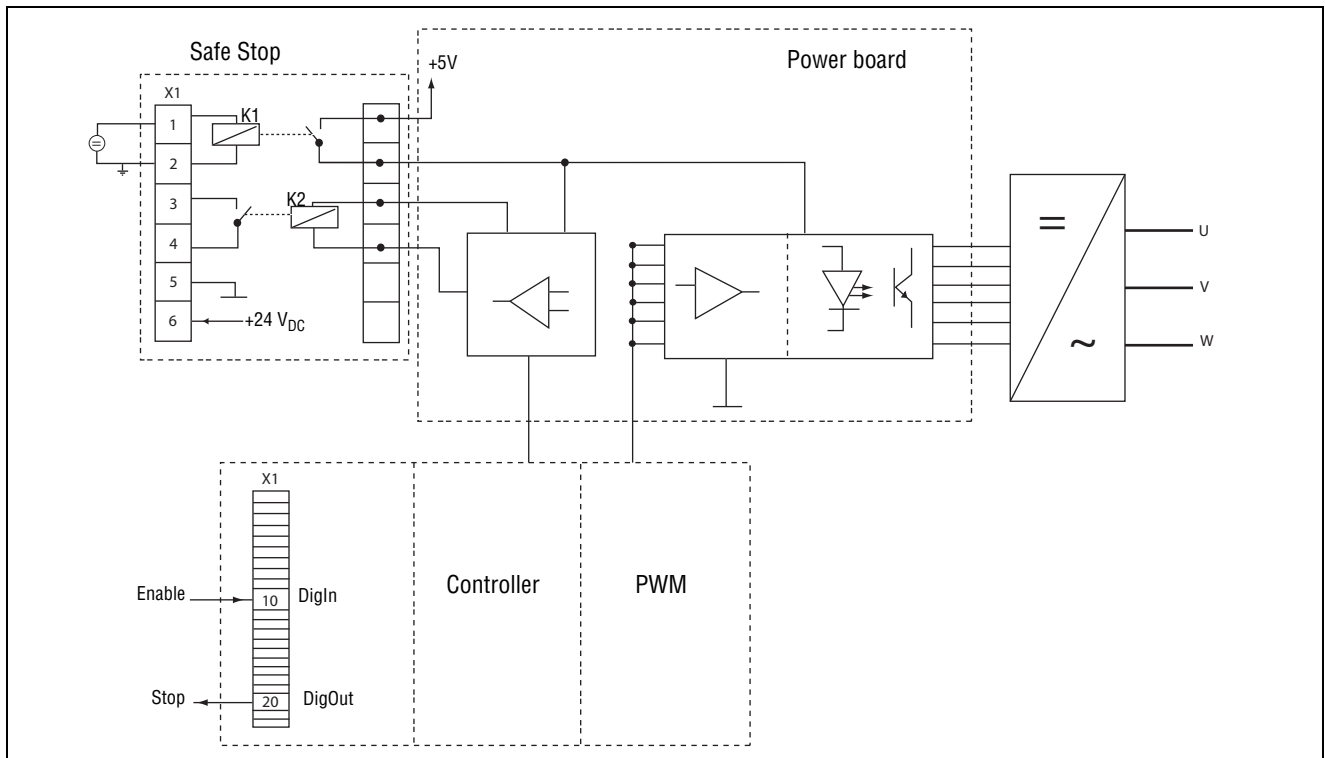

Fig. 136
- "Inhibit" input, terminals 1 (DC+) and 2 (DC-) on the Safe Stop option board should be made active by connecting $24 V_{DC}$ to secure the supply voltage for the driver circuits of the power conductors via safety relay K1. See also Fig. 136.
- High signal on the digital input, e.g. terminal 10 in Fig. 136, which is set to "Enable". For setting the digital input please refer to section 11-5-2, page 200.
To monitor the "Enable" function, the selection "RUN" on a digital output can be used. For setting a digital output, e.g. terminal 20 in the example Fig. 136, please refer to section 11-5-4, page 209 [540].